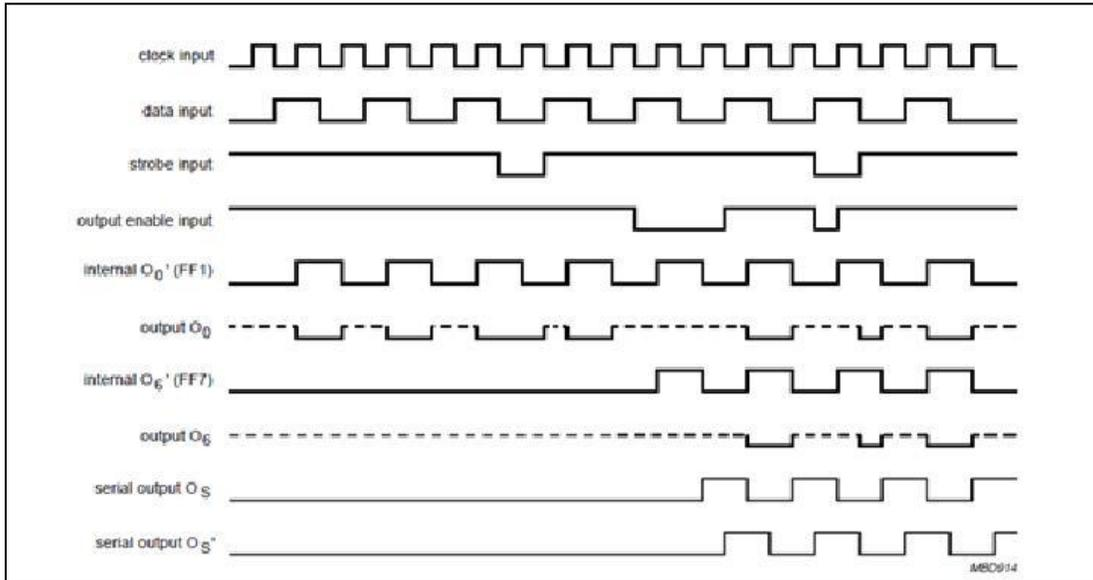

Figure 3.2-1: Timing diagram
appears at the outputs whenever the output enable (EO) signal is high. To fully understand when the shift register reads the state of the data pin, Figure 3.2-1 illustrates the timing diagram of the HEF4794B shift register. Table 3.2-1 is the logic table, where functions are stated when any input pin is set high or low.